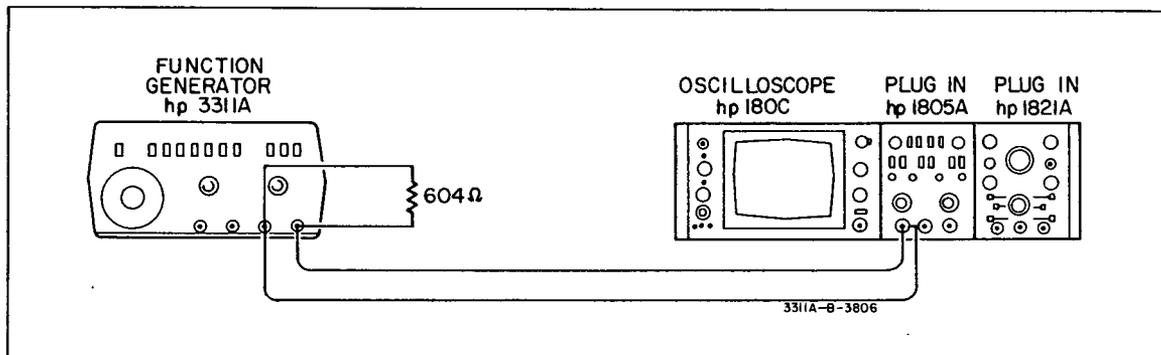

Figure 5-1. Amplitude Flatness.
- Connect the equipment as shown in Figure 5-1.